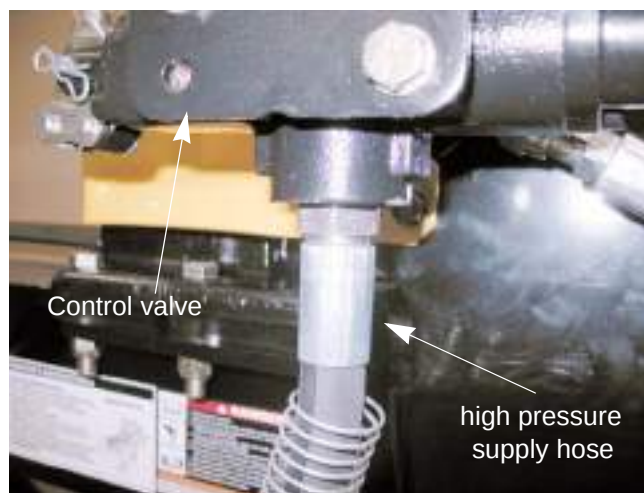

Figure 6.4
7. Disconnect the high pressure supply hose from the valve using a 15/16" wrench. See Figure 6.4.